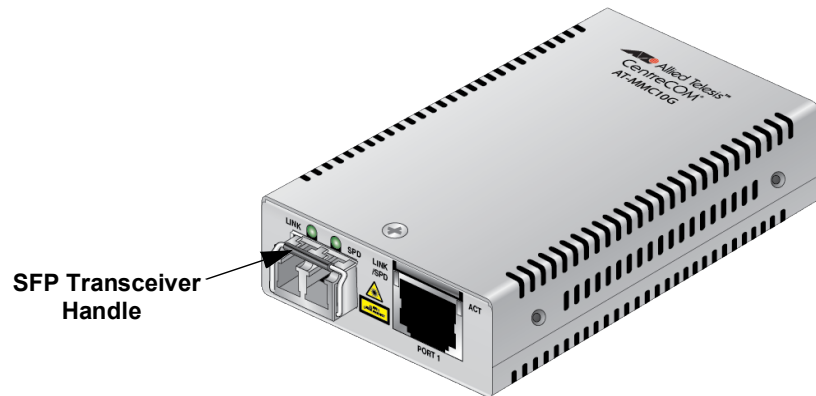

Figure 36. Positioning the SFP Handle in the Upright Position
3. Verify that the handle on the transceiver is in the upright position, as shown in Figure 36. This secures the transceiver and prevents it from being dislodged from the port.